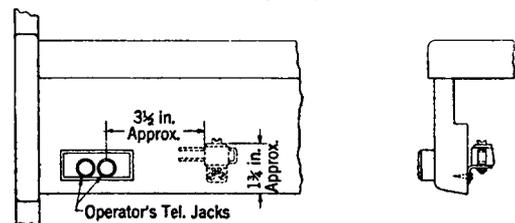

Fig. 2—Varistor Mounted on Lockrail.
3.03 Where the wiring to the telephone jacks enters along the right-hand side of the keyshelf, mount the varistor on the lockrail as indicated by Fig. 2.